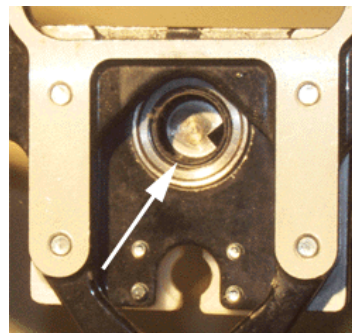

Figure 7-34
3. Pull the driver shaft and driver shaft guide out the front of the driver until the bearings are exposed, as shown in *Figure 7-34*.